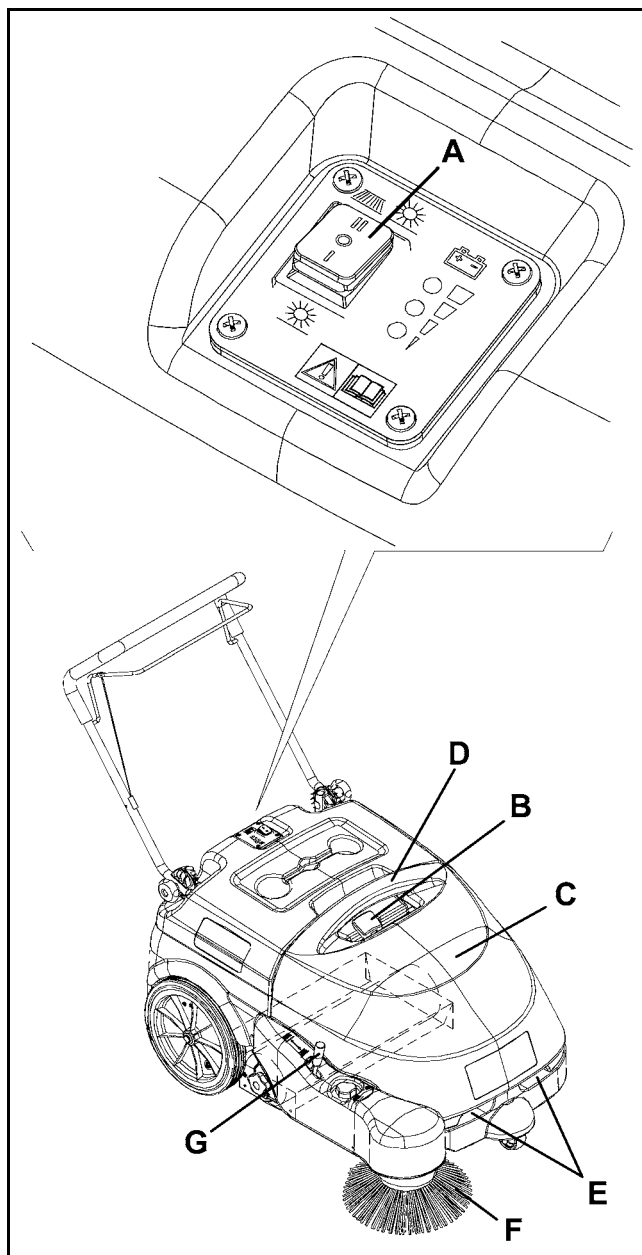

Figure 4
- Stop the machine and turn the main switch (A, Fig. 4) to "0".
- To shake the filter, move the filter shaker knob (B) to the right and then to the left several times.
- Turn the main switch (A) to "I" and start sweeping again.
3. The hopper (C, Fig. 4) should be emptied after each working cycle and whenever it is full.
1. Stop the machine and turn the main switch (A, Fig. 4) to "0".
2. Remove the hopper (C) by using the handles (D) and (E), then empty it at the waste collection centre.
3. Install the hopper (C).
1. Turn the main switch (A, Fig. 4) to "0".
2. Turn on the filter shaker with the knob (B).
3. Empty the hopper (C) (see the procedure in the previous paragraph).
4. Lift the side broom (F, Fig. 4) by pulling the lever (G) backwards and by engaging it to the fastener.